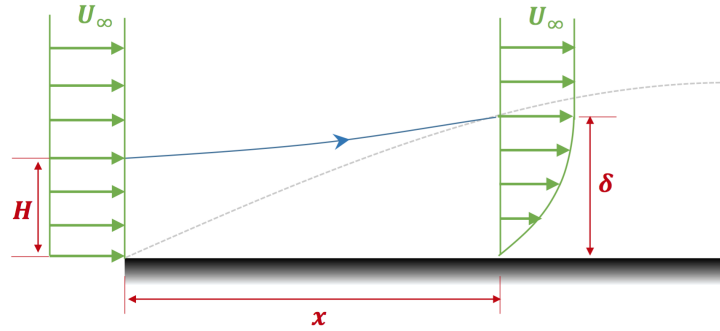

Figure 13: See problem 7.
**Problem:** The flow of a viscous fluid over a plate results in the development of a region of reduced velocity adjacent to the wetted flat surface as depicted in Figure 13. The region of reduced flow velocity is called *boundary layer*. Inside the boundary layer the viscous force is significant but outside of it the flow remains inviscid. At the leading edge of the plate, the velocity profile may be considered uniformly distributed with a value  $U_\infty$ . All along the outer edge of the boundary layer, the fluid velocity component parallel to the plate is also  $U_\infty$ .